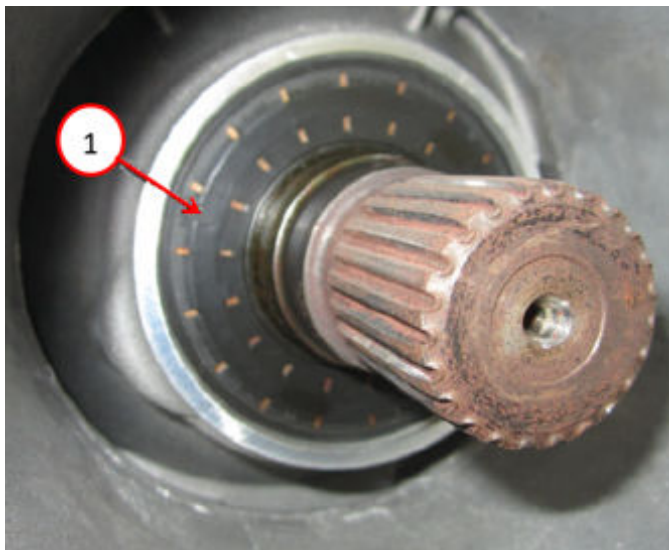

Fig. 3
6. Remove the transmission output shaft seal with a suitable slide hammer and screw Fig. 3.